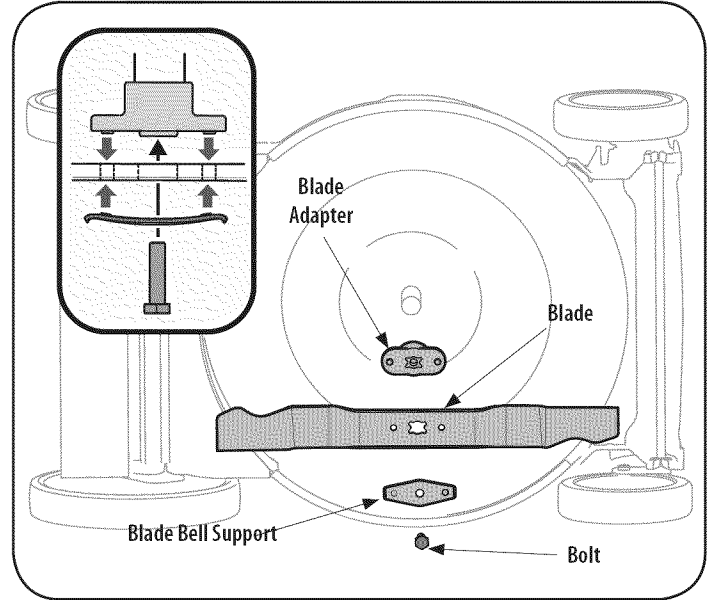

Figure 13
2. Remove the bolt and the blade bell support which hold the blade and the blade adapter to the engine crankshaft. See Figure 13.
5. Lubricate the engine crankshaft and the inner surface of the blade adapter with light oil. Slide the blade adapter onto the engine crankshaft. Place the blade on the adapter such that the side of the blade marked "Bottom" (or with part number) faces the ground when the mower is in the operating position. Make sure that the blade is aligned and seated on the blade adapter flanges. See Figure 13 inset.